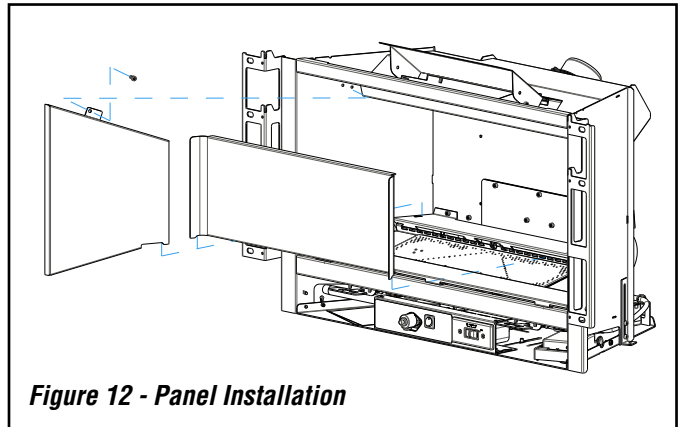

Figure 12 - Panel Installation
3. Install the rear liner panel by inserting the tabs on the bottom of each end into the slots on the rear burner-retaining tray (*see Figure 12*).
4. Install one side liner panel by inserting the tab (located on the bottom edge near the back) into the same slot as one side of the rear liner panel (*see Figure 12*). Fasten in place using one screw from the brackets removed in step 2. Repeat for the other side liner panel.